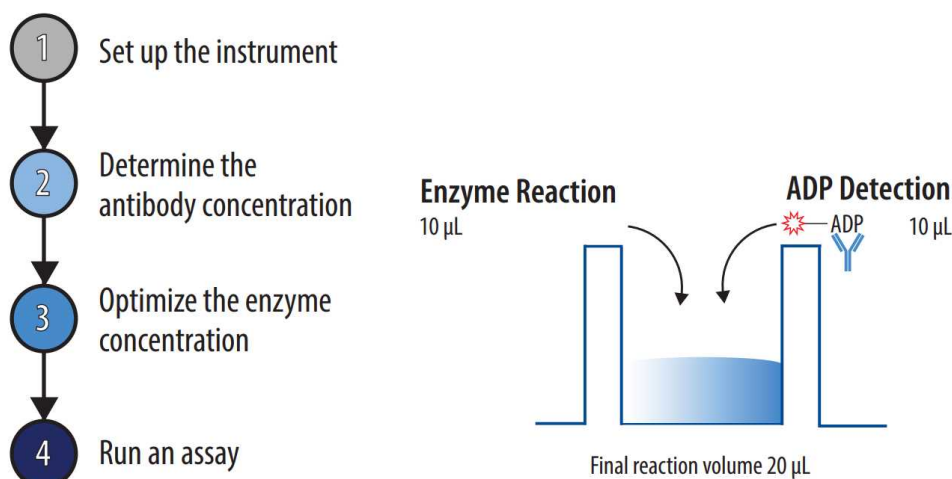

Figure 2. An outline of the procedure. The assay consists of 4 main steps with a mix-and-read format.
- 4 The Transcreener® ADP² FP Assay protocol consists of 4 steps (**Figure 2**). The protocol was developed for a 384-well format, using a 10 µL enzyme reaction and 20 µL complete assay volume at the time that the plates are read. The use of different densities or reaction volumes will require changes in reagent quantities.